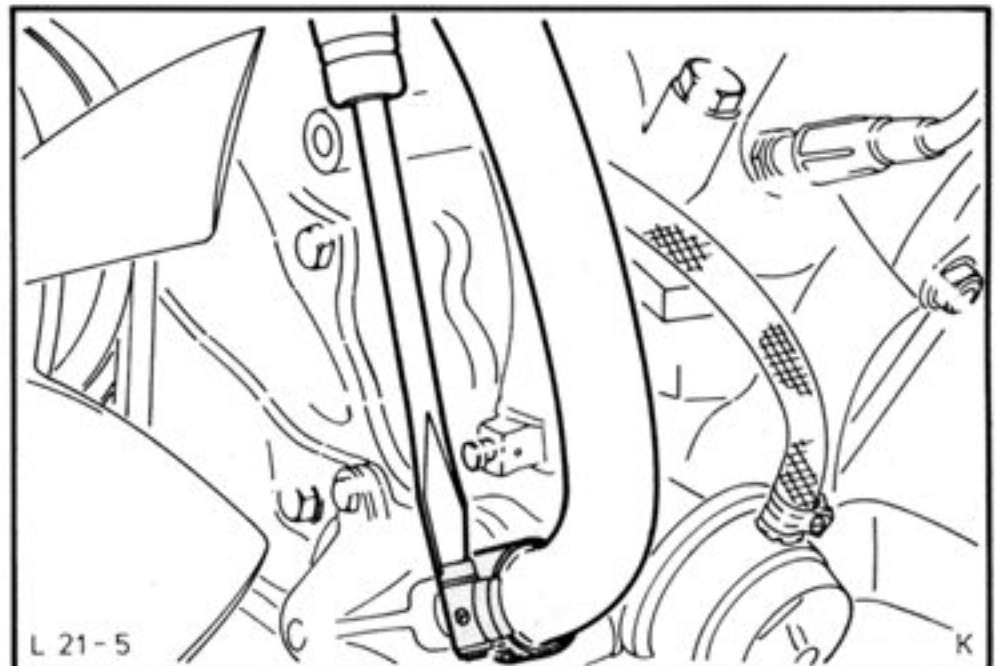

Fig.6. Disconnect hot-water hose from thermostat housing.
5. Disconnect hot-water hose from the intermediate section of the auxiliary air valve and from the thermostat housing, Fig.6.